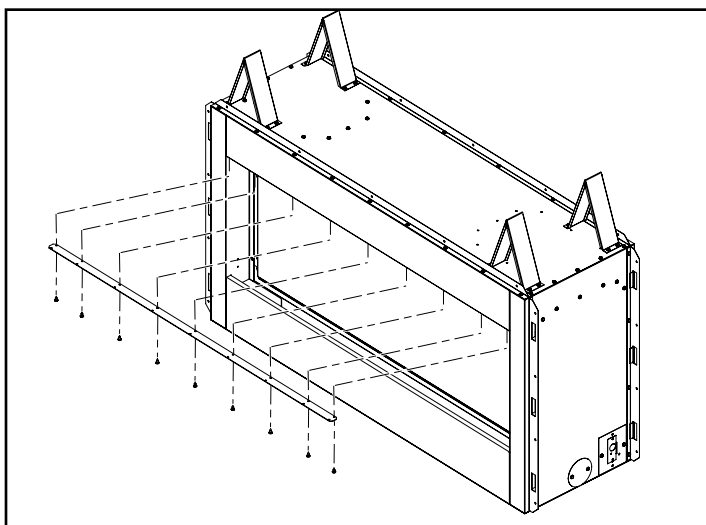

Figure 39 - Removing Mount Bracket for See-Thru Applications
2. Unscrew mount bracket from top face as shown in Figure 39, **Page 30**. Discard mounting bracket and replace screws.